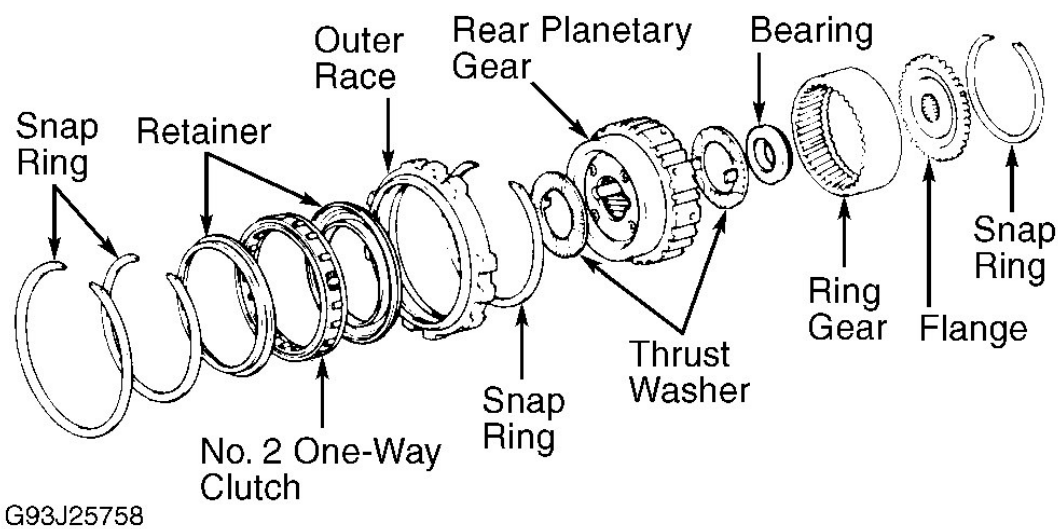

Fig. 27: Exploded View Of Rear Planetary Gear (A-540H Shown; A-241H Similar)
2. Remove thrust washers from both sides of planetary gear. Remove snap rings and retainers from both sides. Remove No. 2 one-way clutch from outer race. See **Fig. 27**.